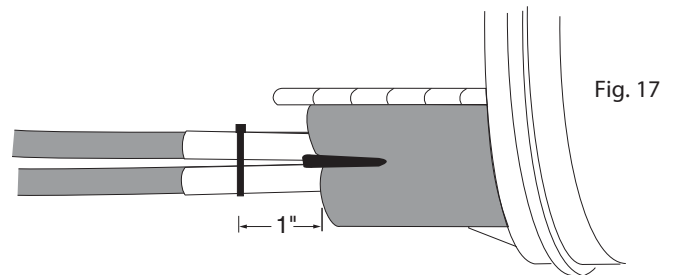

Fig. 17
2. Install a branch-off clip as shown. The clip's base must touch the tube. (Figure 17)